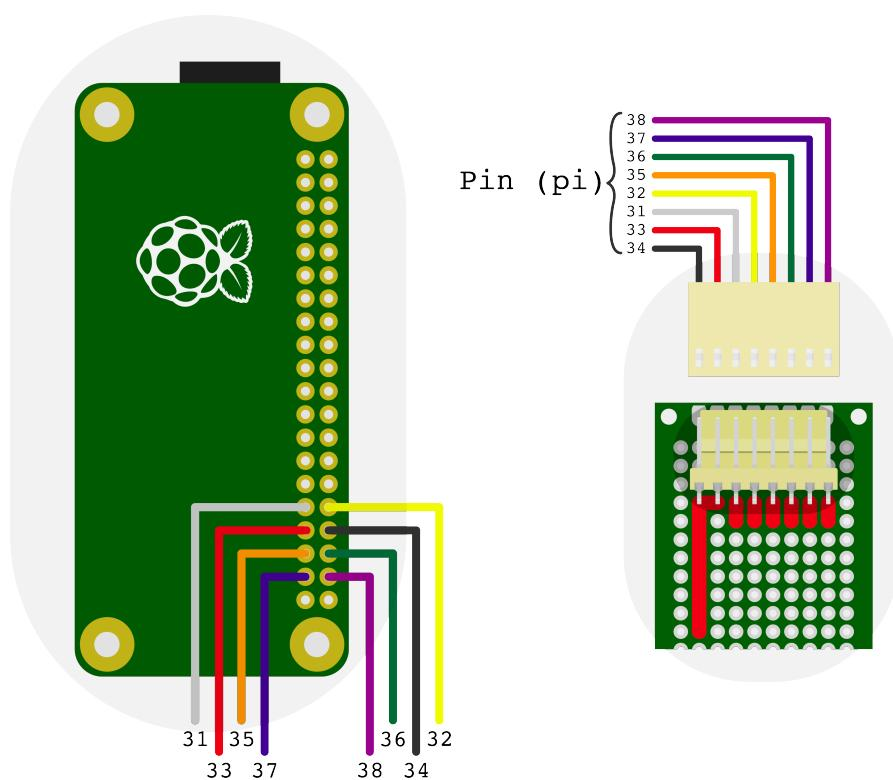
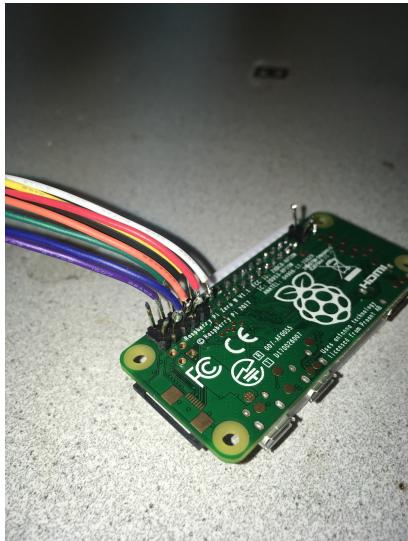

Figure 3.19: Overview of connection of each cable to the correct pin
Figure 3.20: Cables on Raspberry Pi Soldered
Step 5 Now we can solder the 8-pin Female cable to the pins of the Pi, as in figure 3.20. How they are connected exactly, is shown in Table 3.2 and Figure 3.19. As in **Step 2**, solder the wires directly to the pins soldered in the Pi. Make sure you don't short circuit the pins, which happens when you solder pins together.